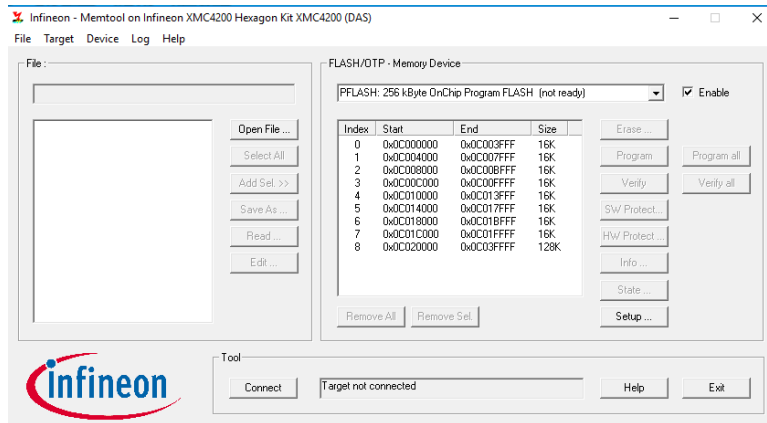
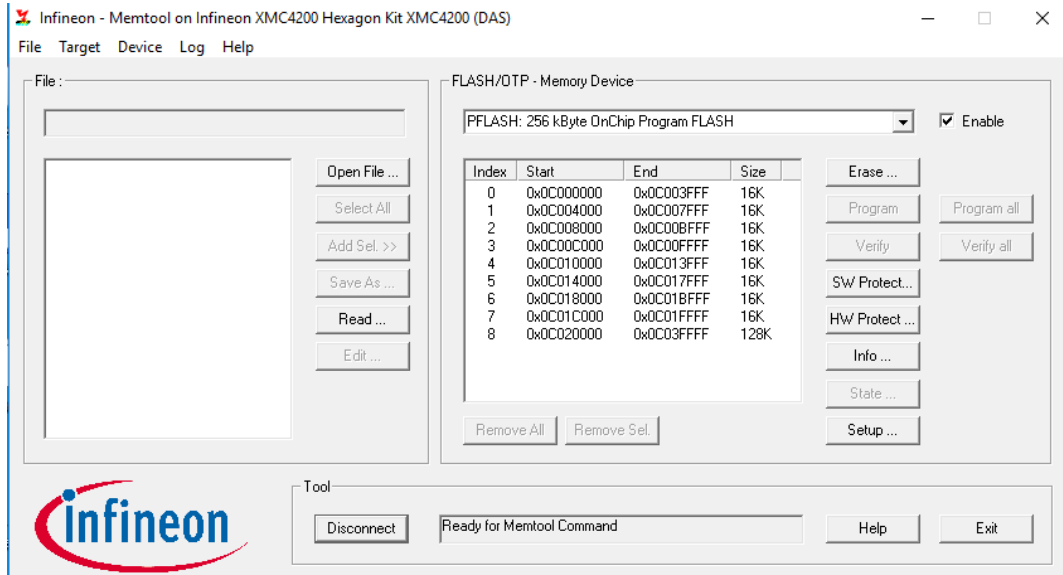

Figure 2. Memtool Programming Tool
Figure 5. Memtool Connected State Window
The code flashing tool used by OmniPreSense is Memtool (Figure 2) also provided by Infineon. This free tool is available here.
**Step 4.** Start Memtool on the PC to get a window similar to that shown in Figure 2. Press the Connect button. A message will appear to the right of the Connect button indicating the connection is in progress. If successful, the message will change to “Ready for Memtool Command” (Figure 5).